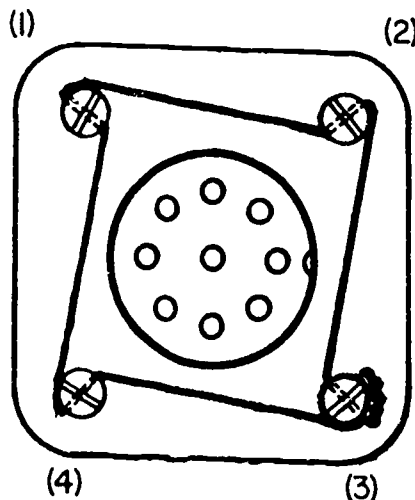

Figure 2. Top View of Connector Plug.
2. Refer to figure 2 for correct installation of the wire and perform the following steps.
f. Bend the pigtail around the screw so that it looks like the wire in figure 2. This will help keep someone from snagging their hand on the safety wire.